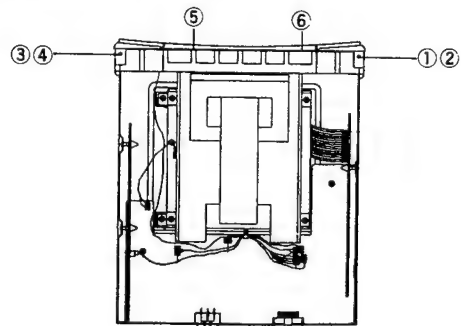

Fig. 4
1. Remove screws ① to ⑥ in Fig. 4